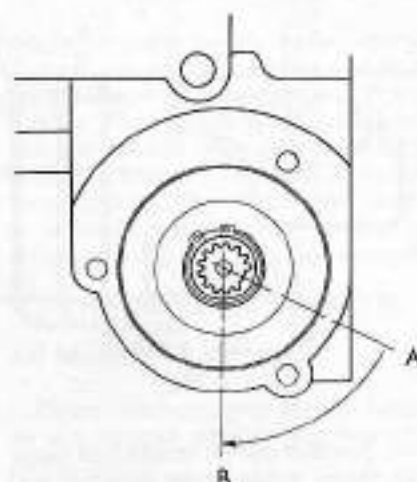

Fig. 86—View showing "4 o'clock" position (A) and "6 o'clock" position (B) used in pump drive assembly installation. Refer to paragraph 159.
position (A—Fig. 86); as gear engages drive gear on camshaft, master spline should move to "6-o'clock" position (B).